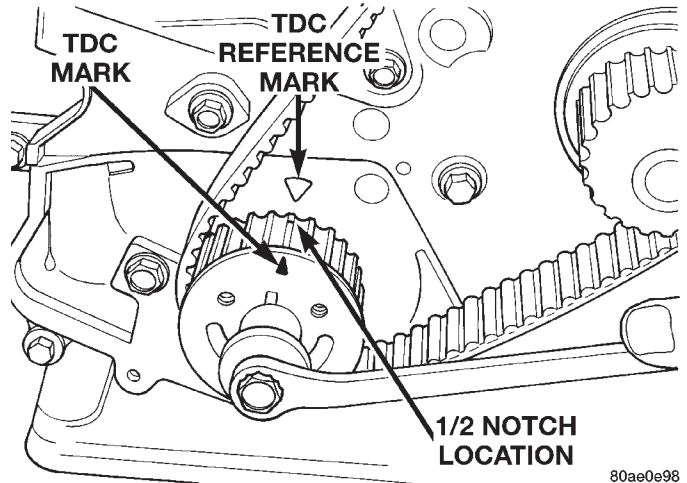
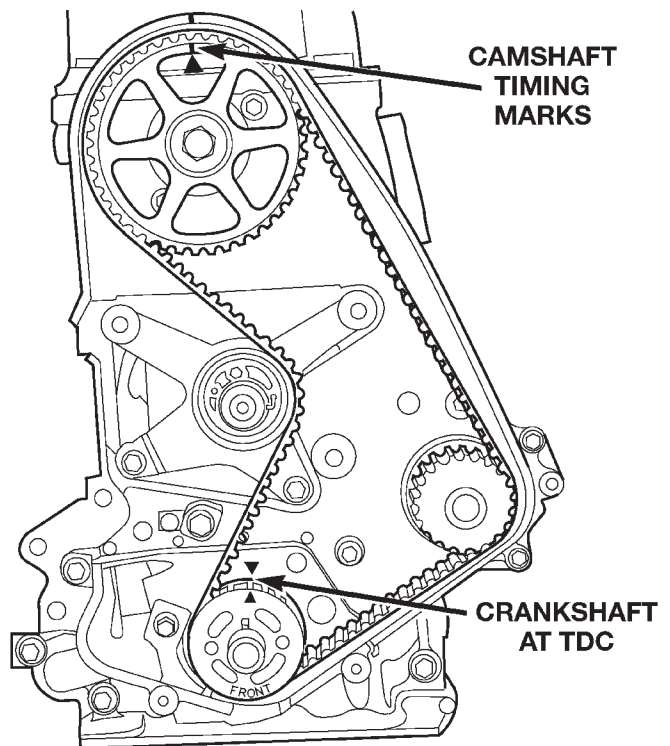

Fig. 62 Adjusting Crankshaft Sprocket for Timing Belt Installation
Fig. 63 Crankshaft and Camshaft Timing
(3) Move crankshaft to 1/2 mark before TDC (Fig. 62) for belt installation.
(4) Install timing belt. Starting at the crankshaft, go around the water pump sprocket and then around the camshaft sprocket.
(5) Move crankshaft sprocket to TDC to take up belt slack.
(6) Remove the pin or 1/8" or 3 mm Allen wrench from belt tensioner.
(7) Rotate crankshaft 2 revolutions and check the alignment of the timing marks (Fig. 63).
(8) Install front half of timing cover.
(9) Install engine mount bracket.
(10) Install power steering pump assembly and set aside.
(11) Install right engine mount. Refer to procedure outlined in this section.
(12) Remove jack from under engine.